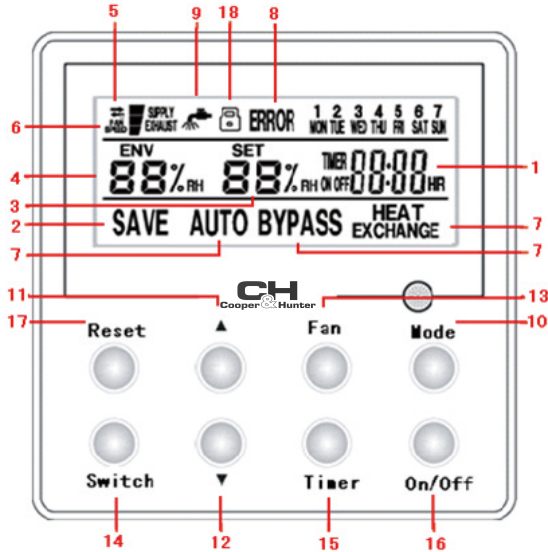

Figure 2 Front Panel of the Control
- ◆ By pressing the “Mode” and “▲” keys at the same time for five seconds, fresh air mode, discharge air mode and supply air mode can be switched circularly. See figure 2 for more details. The air mode is decided by the user. When positive pressure is required indoor, supply air mode is satisfactory. When negative pressure is required, discharge air mode is favorable. In generally, fresh air mode is satisfactory.